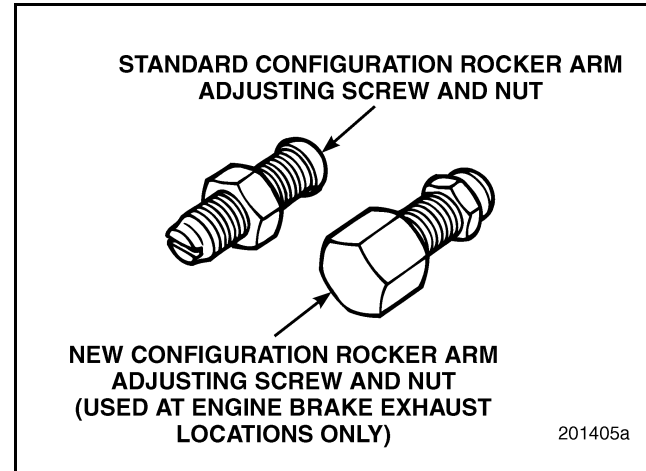

Figure 21 — Rocker Arm Adjusting Screws and Nuts
- Unique exhaust rocker arm adjusting screws and nuts (Figure 21).